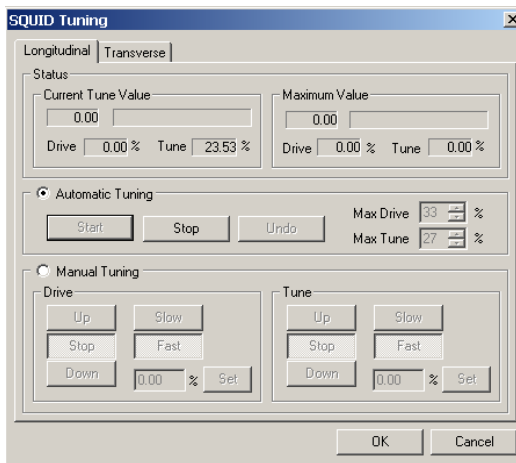

Figure 2. SQUID Tuning dialog box
- a. Open the **SQUID Tuning** dialog box shown in Figure 2 (**Instrument >> SQUID Tune**).